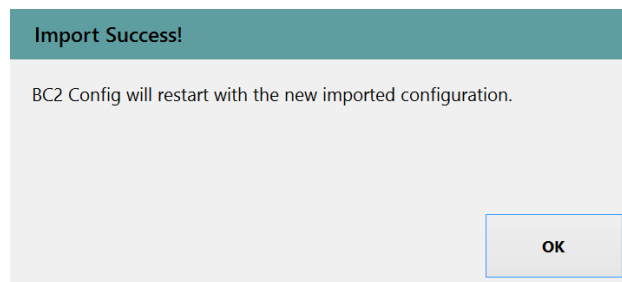

Figure 2.17: A notification about restarting BC2 Config following an import of a pump configuration.
6. If the import was successful, the program will restart. You will be informed prior to this happening – see Figure 2.17 on page 25.